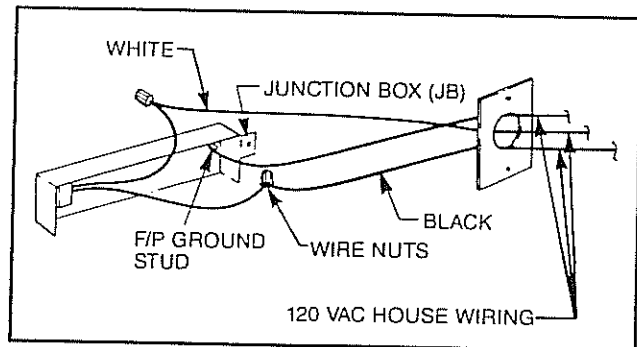

Fig. 15. Wiring diagram.
Using pliers, remove the nut from the grounding stud in the J box and attach the green ground wire from the house power. Reinstall the nut securely. (See Fig. 15.)
Attach the white wire from house power to one (1) wire of the receptacle and secure within a wire nut. Attach the black wire from the house power to the other wire of the receptacle and secure within a wire nut. (See Fig. 15.)